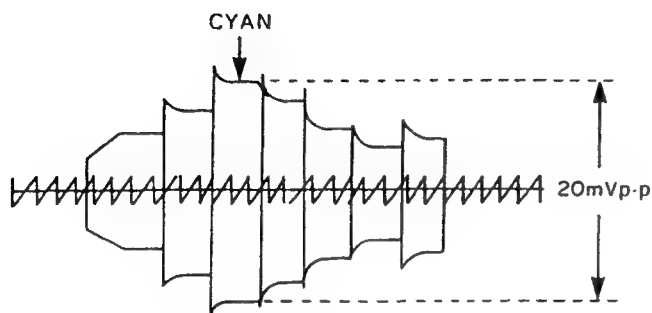

Figure 2-18.
- b) Adjust R5813 (record chroma control) so that the red level should be 20mVp-p as shown in Figure 2-18.